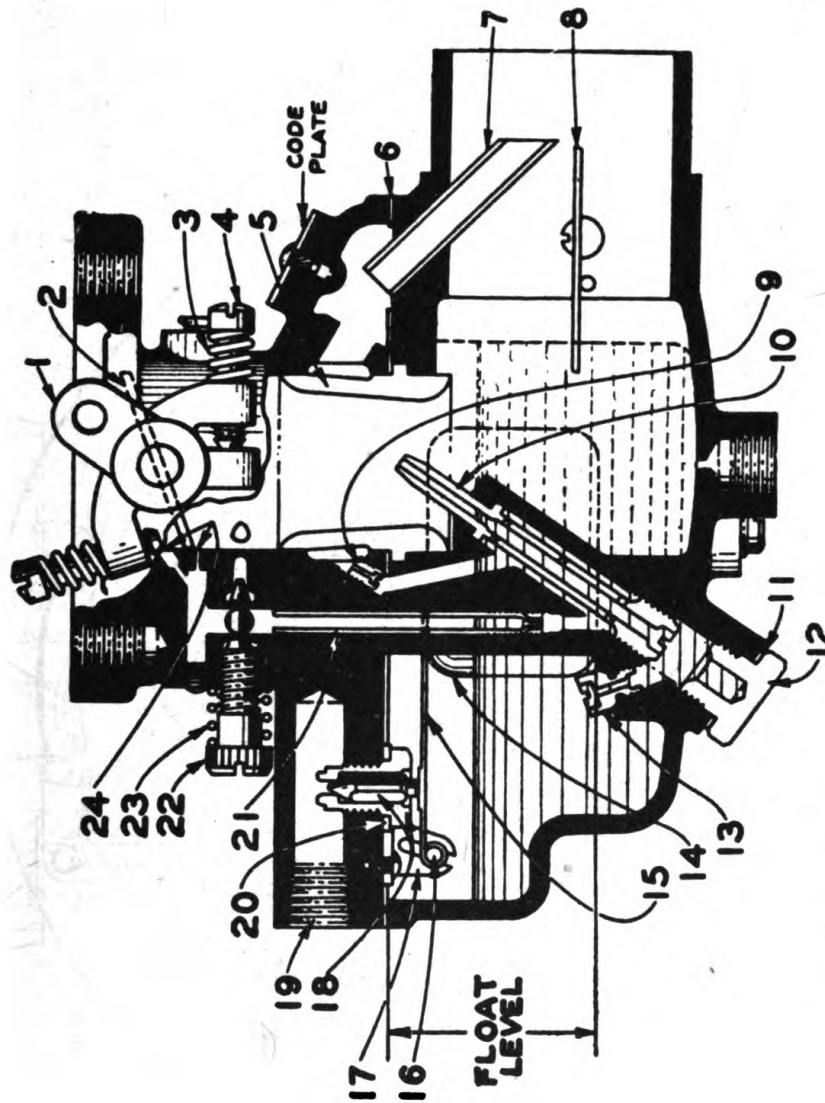

FIGURE 12.—Carburetor.
- (1) The amount of end clearance is governed by shims 226 and 227.
- (2) By driving the crankshaft from one side to another, the end play can be easily felt.
20. Carburetor. (Figure 12)